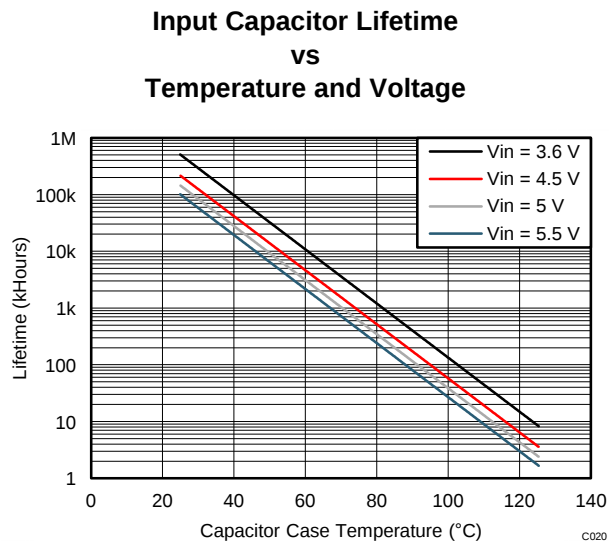
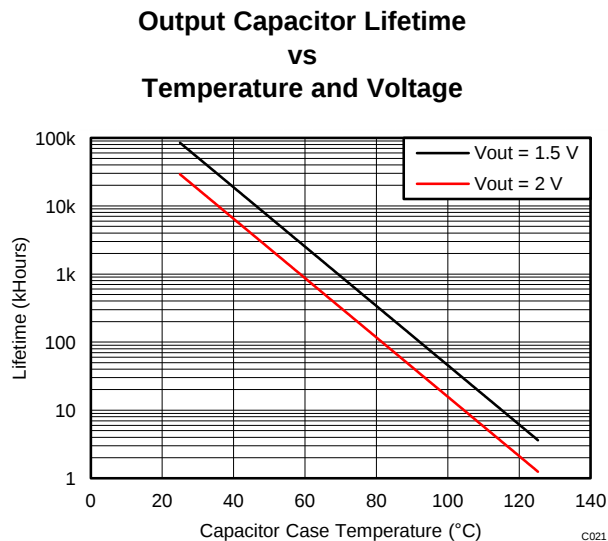

Figure 32. Input Capacitor Lifetime
Figure 33. Output Capacitor Lifetime
Failures caused by systematic degradation are described by the Arrhenius model. The most critical parameter (IR) is the Insulation Resistance (i.e. leakage current). The drop of IR below a lower limit (e.g. 1 M Ω) is used as the failure criterion. See Figure 32 and Figure 33. Note that the wear-out mechanisms occurring in the MLCC capacitors are not reversible but cumulative over time.